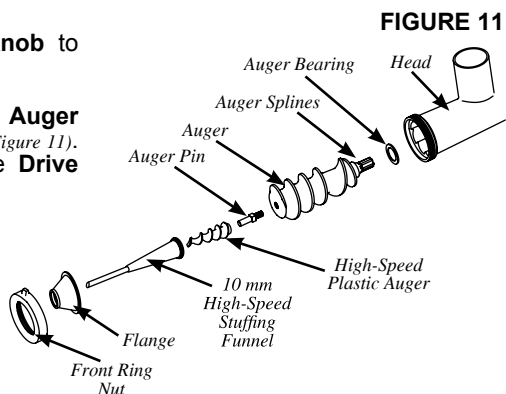

FIGURE 11
3. Insert the **Auger**, with the **Auger Bearing** attached, into the **Head** (Figure 11). Align the **Auger Splines** with the **Drive Shaft** of the **Grinder**.